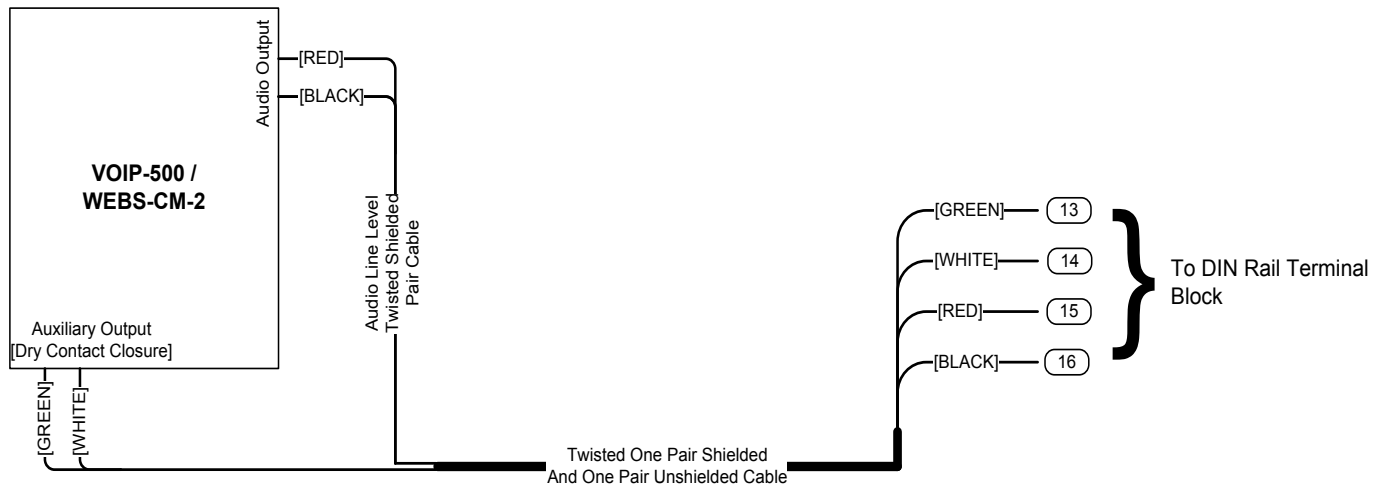

Figure 6. VOIP-500 / WEBS-CM-2 and DIN Rail Terminal Block Connectivity Layout
4. When using **WEBS-CM-2** or **VOIP-500 Series** Emergency Phone make connections to the DIN Rail Terminal Block as shown in **Figure 6**.